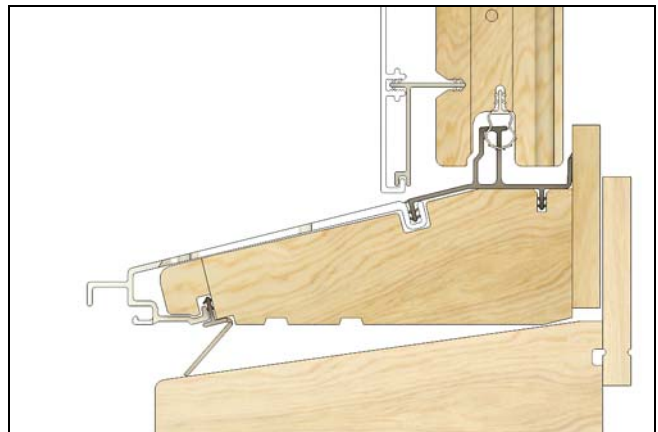

Figure 11
1. Before installing insert unit into opening, bend sill fin forward to the exterior. Sill fin is only needed if the gap is present between the existing sill and UDHING2 frame. See Figure 11.